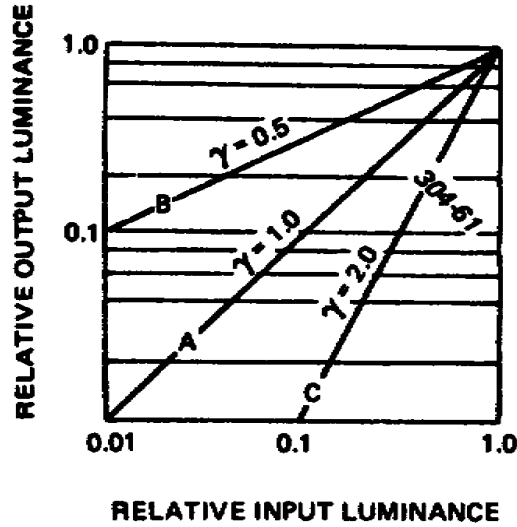

FIGURE 1-1. Theoretical system transfer characteristics
3. Refer to curve b of figure 1-1. This represents the transfer characteristic for a theoretical system with a gamma of 0.5. For such a system, a change of input luminance of 100-1 produces only a 10-1 change in output luminance, which is ideal for the lighting conditions described.
b. Curve c of figure 1-1 represents the transfer characteristic of such a system with a gamma of 2. A 10-1 change in input luminance would be expanded by the system into a 100-1 change in output luminance, resulting in the picture information being more easily discernible.